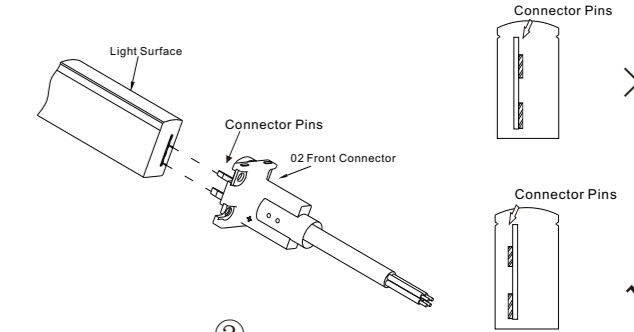

Fig. 7 Energizing Way
- Max. running length depends on the energizing way as Fig. 7 shown.